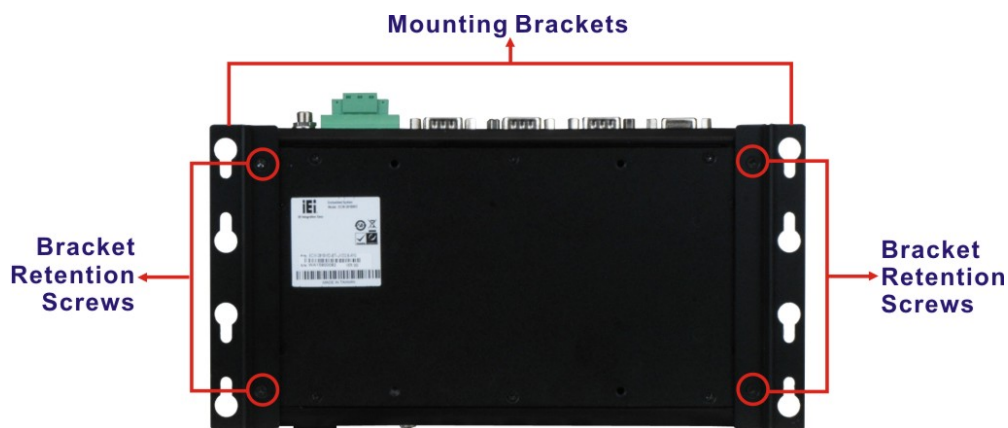

Figure 3-22: Mounting Bracket Retention Screws
- Step 3:** Secure the brackets to the system by inserting two retention screws (M3*5) into each bracket (**Figure 3-22**).